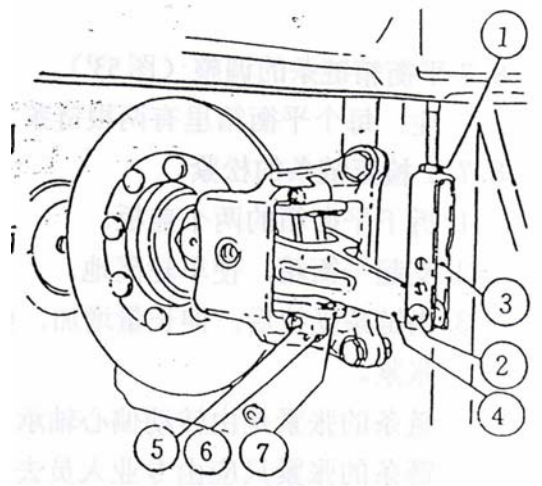

Fig. 52
1. Loosen the fastening nut (Fig.52/1) for some turns;
2. Remove pin (Fig.52/2);
3. Disengage the hitch yoke (Fig. 52/3) from claw beam \oplus and screw it on by some turns;
4. Put the hitch yoke (Fig. 52/3) on claw beam (Fig. 52/4) and install the pin (Fig.52/2) and tighten fastening nut.
1. Loosen the bolt (Fig.52/5) and remove clamping plate (Fig.52/6);
2. Take out the baffle (Fig.52/7) along the direction of the claw beam (Fig.52/4);
3. Replace brake lining (The lining is along the direction of brake disc). Push in the baffle and fix bolt (Fig.52/5) with clamping plate, the anti-loosening glue must be applied to tighten. The torque is 23Nm~25Nm (2.3kgm~2.5kgm).